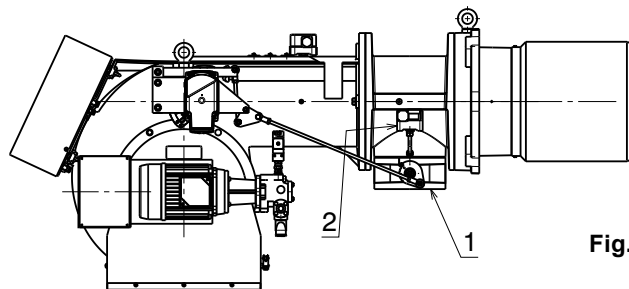

Fig. 26
Gas pressure measured at test point 2)(Fig. 26), with:
Pressure drop at gas butterfly valve 1)(Fig. 26) with maximum opening: 90°.
- subtract the combustion chamber pressure from the gas pressure measured at test point 2) (Fig. 26).
Gas pressure at test point 2)(Fig. 26) = 32.9 mbar
To calculate the required gas pressure at test point 2) (Fig. 26), set the maximum modulating output required from the burner operation:
- Read, on the right (column 1), the pressure at the test point 2)(Fig. 26).
pressure required at test point 2)(Fig. 26).